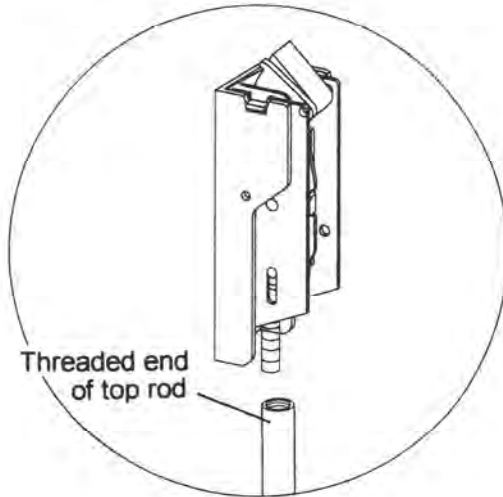

Figure 8
2. Screw the threaded end of top rod into top latch assembly completely. (See Figure 8.)